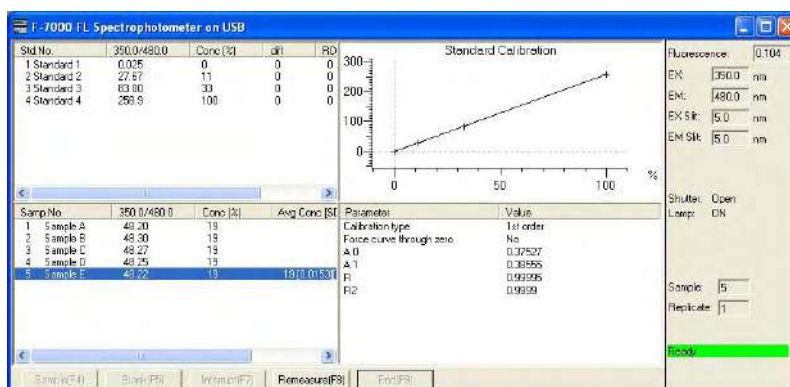

Fig. 4-35
- (d) The monitor window is redisplayed with the newly entered sample names as shown in Fig. 4-35.